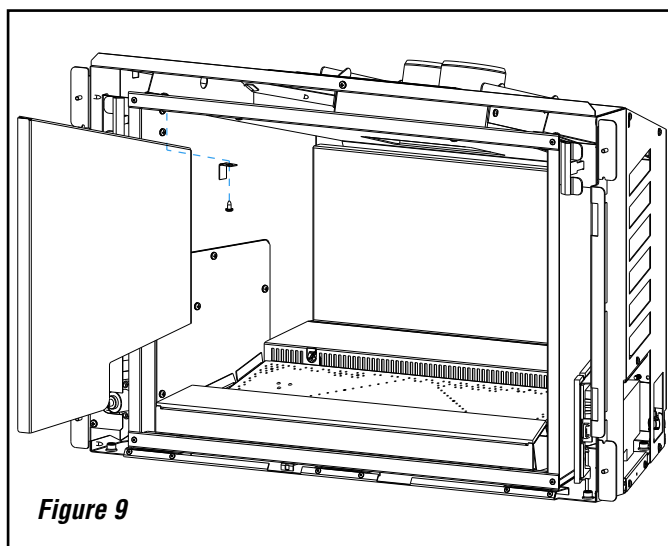

Figure 9
- 5b. Steel and Porcelain panels: using the short 'L' brackets, secure the liner panels by fastening the bracket to the top edge of the fire box with a #8 x 3/8" Phillips screw provided with this manual (**Figure 9**).